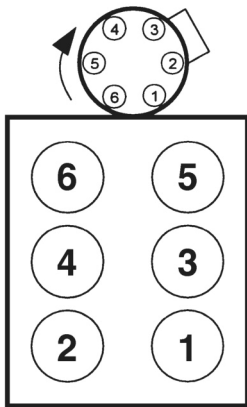

Figure 38. Topside of Engine Showing Position of Cylinders
7. Verify that the distributor rotor is lined up with #1 cylinder on the distributor cap (**Figure 38**).